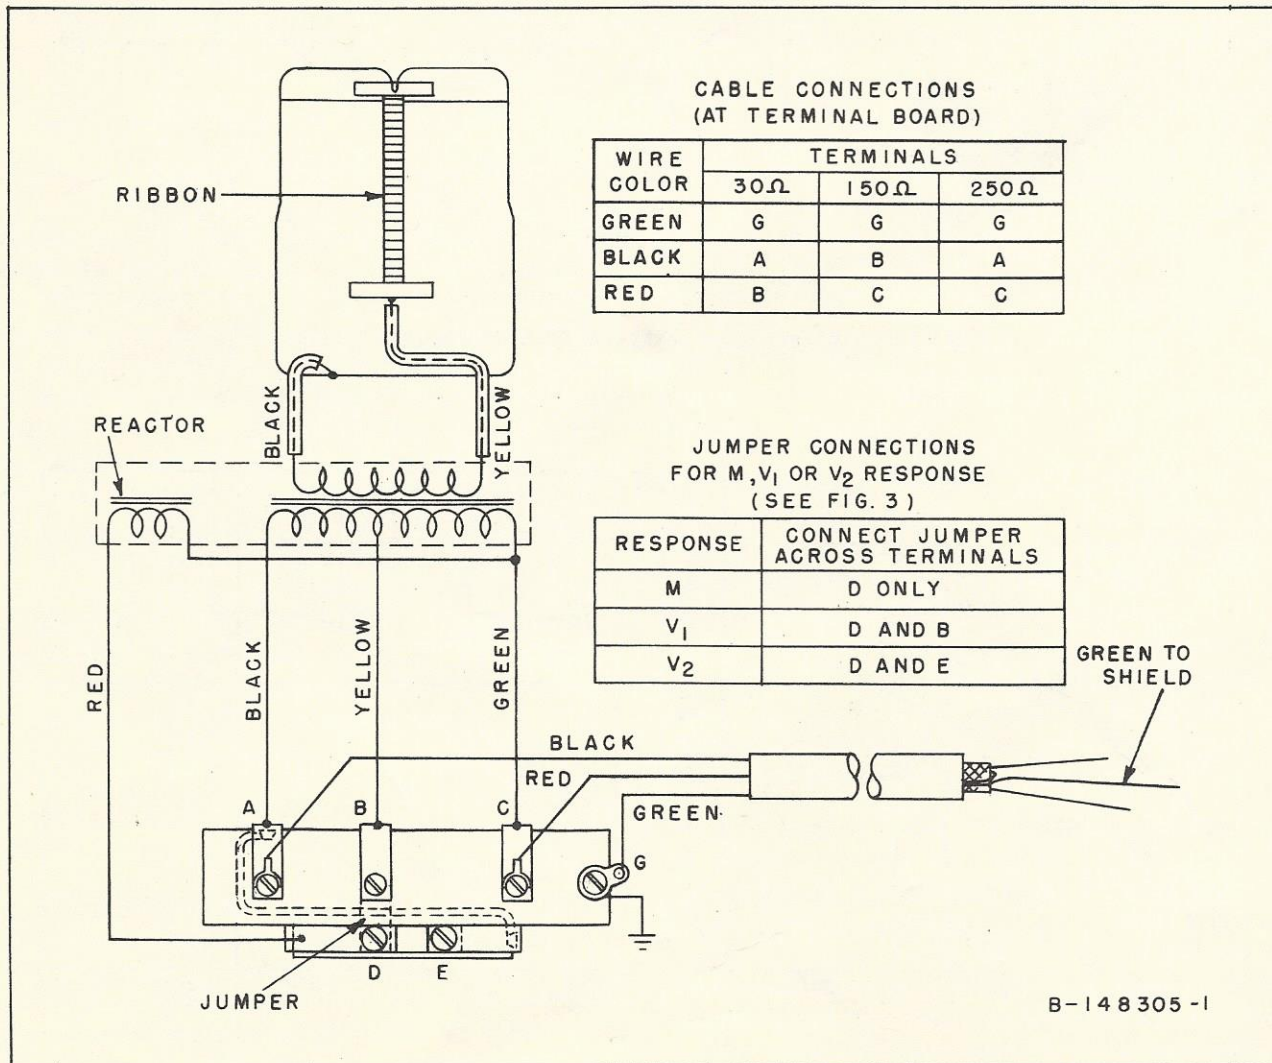

Figure 5 - Schematic Diagram for MI-4027-H Microphone
b. Connect the cable leads to the terminals for the desired impedance as shown in figures 5, 6 and 7, or the diagram attached to the cover of the transformer housing.
The position of the jumper for the M, V1 or V2 response can be observed through the hole in the bottom cover of the microphone. To change this connection, remove the bottom cover (as directed under *Impedance Changes*) and connect the jumper for the desired response as shown in figures 5, 6 and 7.